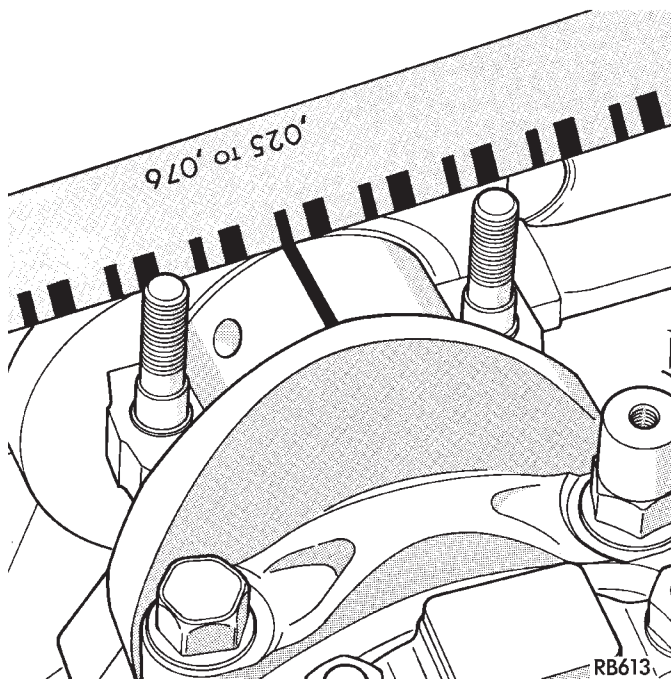

Fig. 22 Checking Connecting Rod Bearing Clearance
(1) Follow procedure specified in the Standard Service Procedures Section for Measuring Main Bearing Clearance and Connecting Rod Bearing Clearance (Fig. 22). Refer to specifications (Fig. 25).